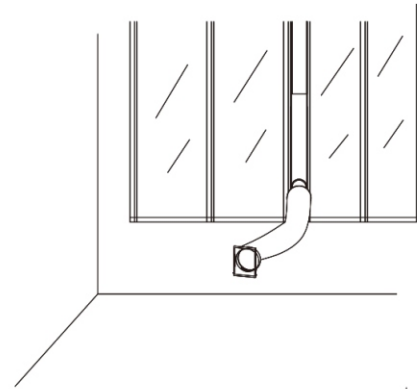

Fig.8
9. Install exhaust air duct, window kit and their accessories onto window according to Fig8 drawing illustrated.